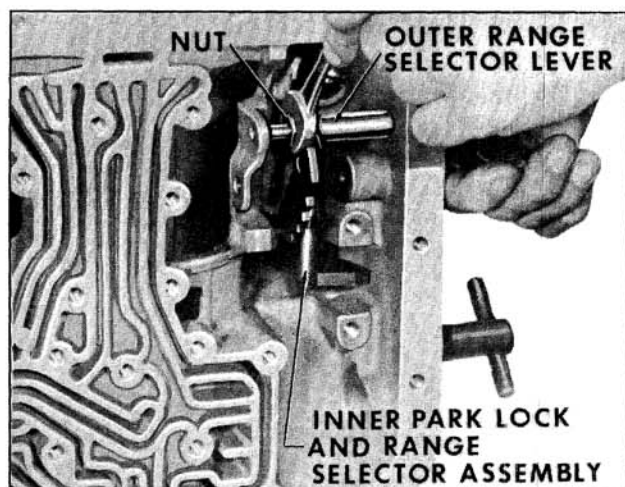

Fig. 6-387 Loosening Selector Lever Locknut
3. With a 9/16" wrench, fully loosen nut that retains outer range selector lever to inner park lock and range selector lever. (Fig. 6-387)